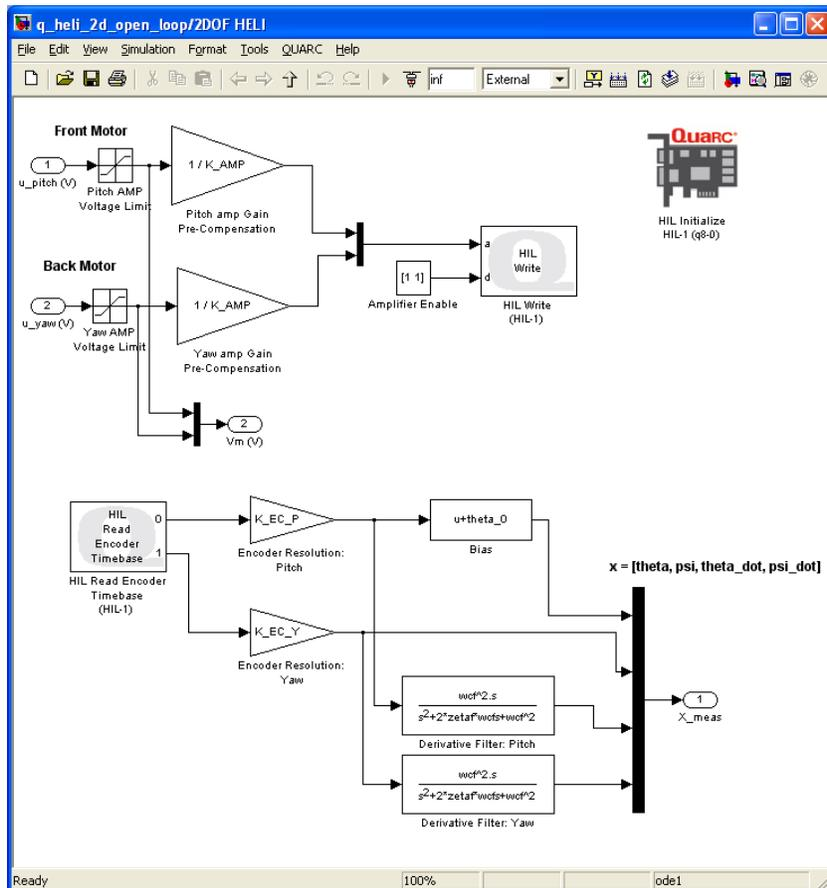

Figure 5.12: 2DOF HELI subsystem contains QUARC blocks that interface with hardware
5. Open the *2DOF HELI* subsystem. Its contents are shown in Figure 5.12. This subsystem contains the QUARC blocks that interface with the hardware of the actual plant. The Analog Output block sends the voltage computed by the controller to the DAQ device which drives the actuators and the Encoder Input block reads the encoder measurements.
6. **Configure DAQ:** Double-click on the HIL Initialize block in the Simulink diagram and ensure it is configured for the DAQ device that is installed in your system. By default the block shown in Figure 5.12 is setup for the Quanser Q8 hardware-in-the-loop board.
6. **Configure DAQ:** Double-click on the HIL Initialize block located in the *2-DOF Helicopter - Closed-loop Actual System 2-DOF HELI* subsystem (contents are as shown in Figure 5.12, above) and ensure it is configured for the DAQ device that is installed in your system. By default the block is setup for the Quanser Q8 hardware-in-the-loop board.